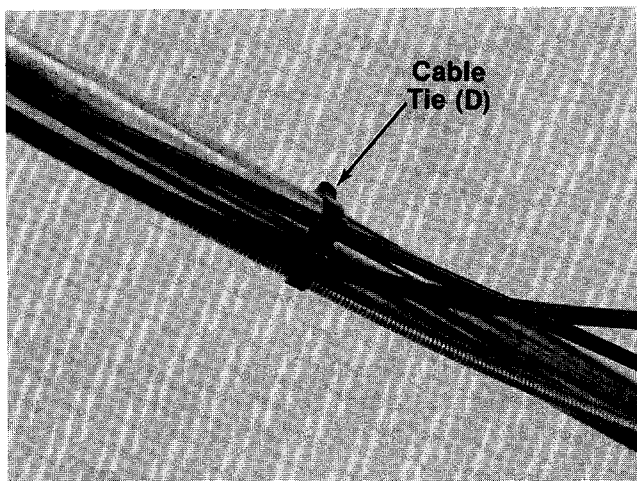

FIGURE 9.
17. Secure the control cables to handle with cable ties (D) provided. See figure 9.